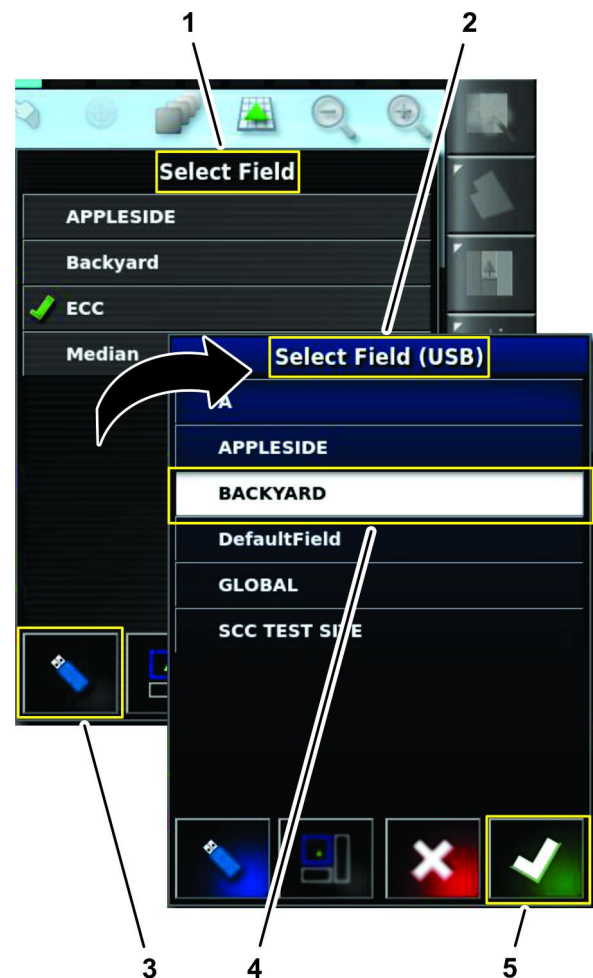

Figure 36
1. In the select field list, press the Switch icon (Figure 36).
2. In the select field list, press the Field icon for the field you are spraying, and press the confirm icon (Figure 36).